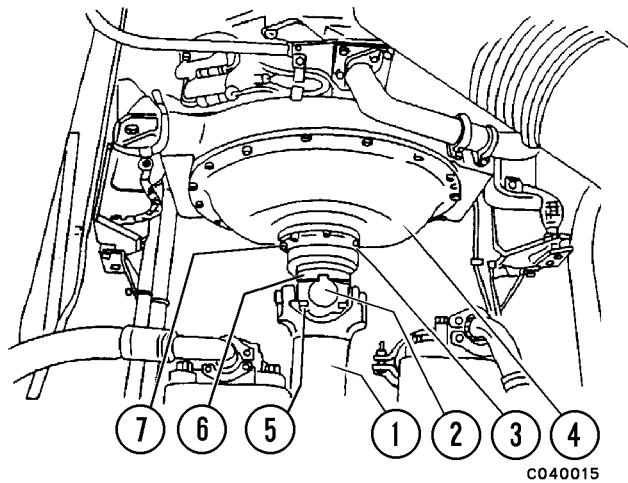
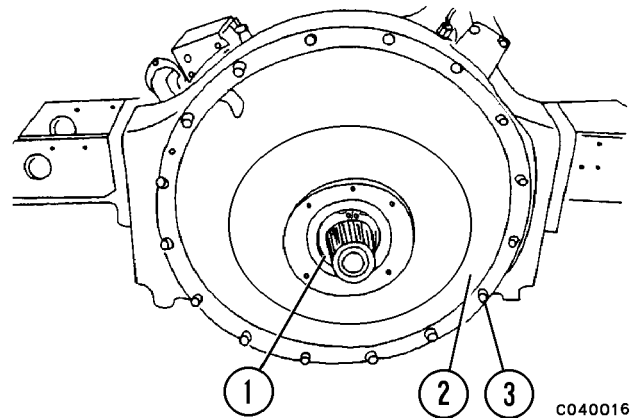

FIGURE 4-10. DRIVE SHAFT
FIGURE 4-11. OUT PUT SHAFT
3. Remove drive shaft guard (1, Figure 4-9). Remove capscrews (5, Figure 4-10) from cross and bearing assembly (2) at both ends of drive shaft, and then remove drive shaft assembly (1).
4. Remove output drive flange (6). Remove capscrews (7) and bearing cover (3).
5. Remove snap ring (1, Figure 4-11). Remove retaining capscrews (3) around damper cover (2), and then with sling, eye bolts, and guide bolts, remove damper cover (2).